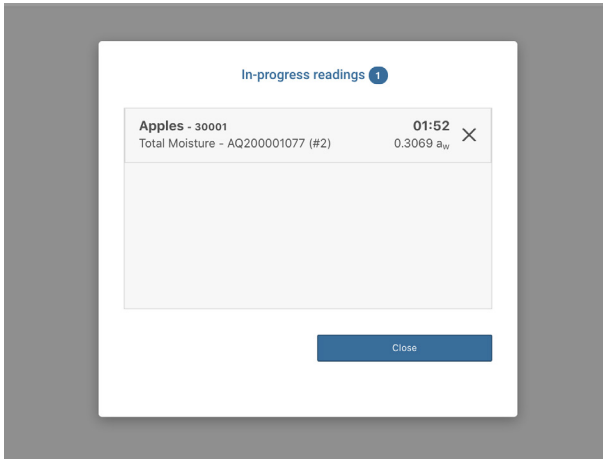

Figure 69 In Progress Reading popup window
The In Progress Readings popup window will appear (Figure 69).
12. Select the **Close** button to close the In-Progress dialog window and return to the readings window (Figure 69).